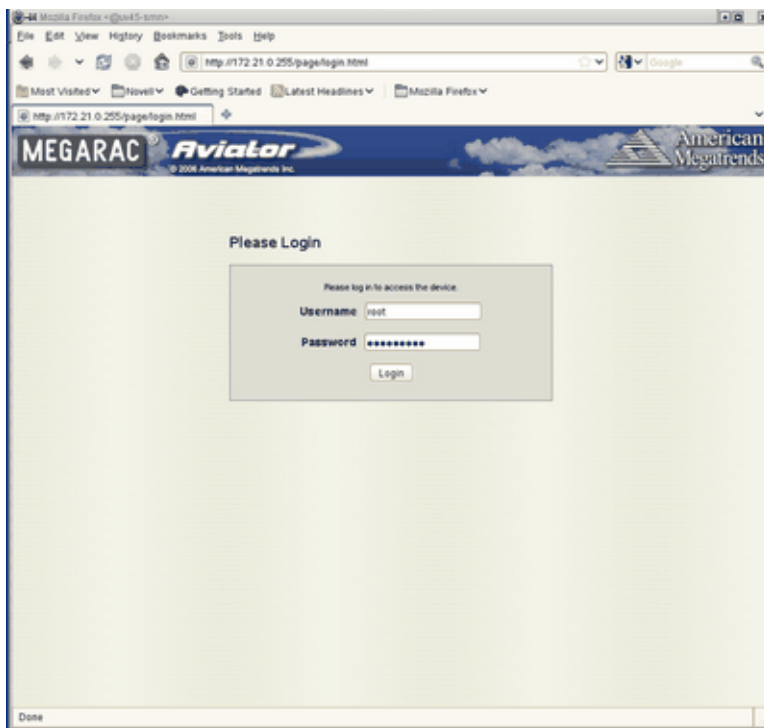

Figure 3-1 BMC Login Screen
4. The BMC login screen appears, as shown in Figure 3-1 on page 36. Login as **root** with the password **superuser**.